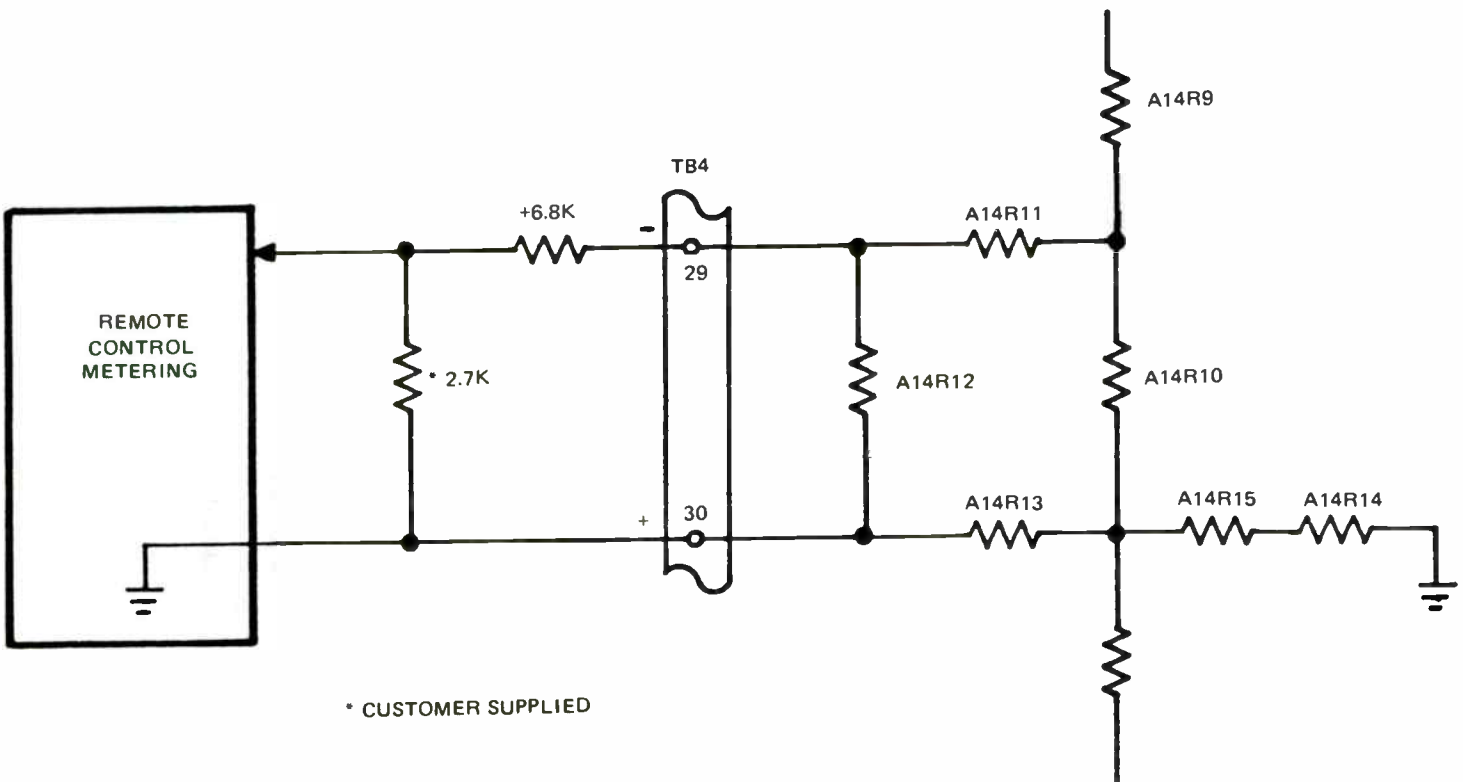
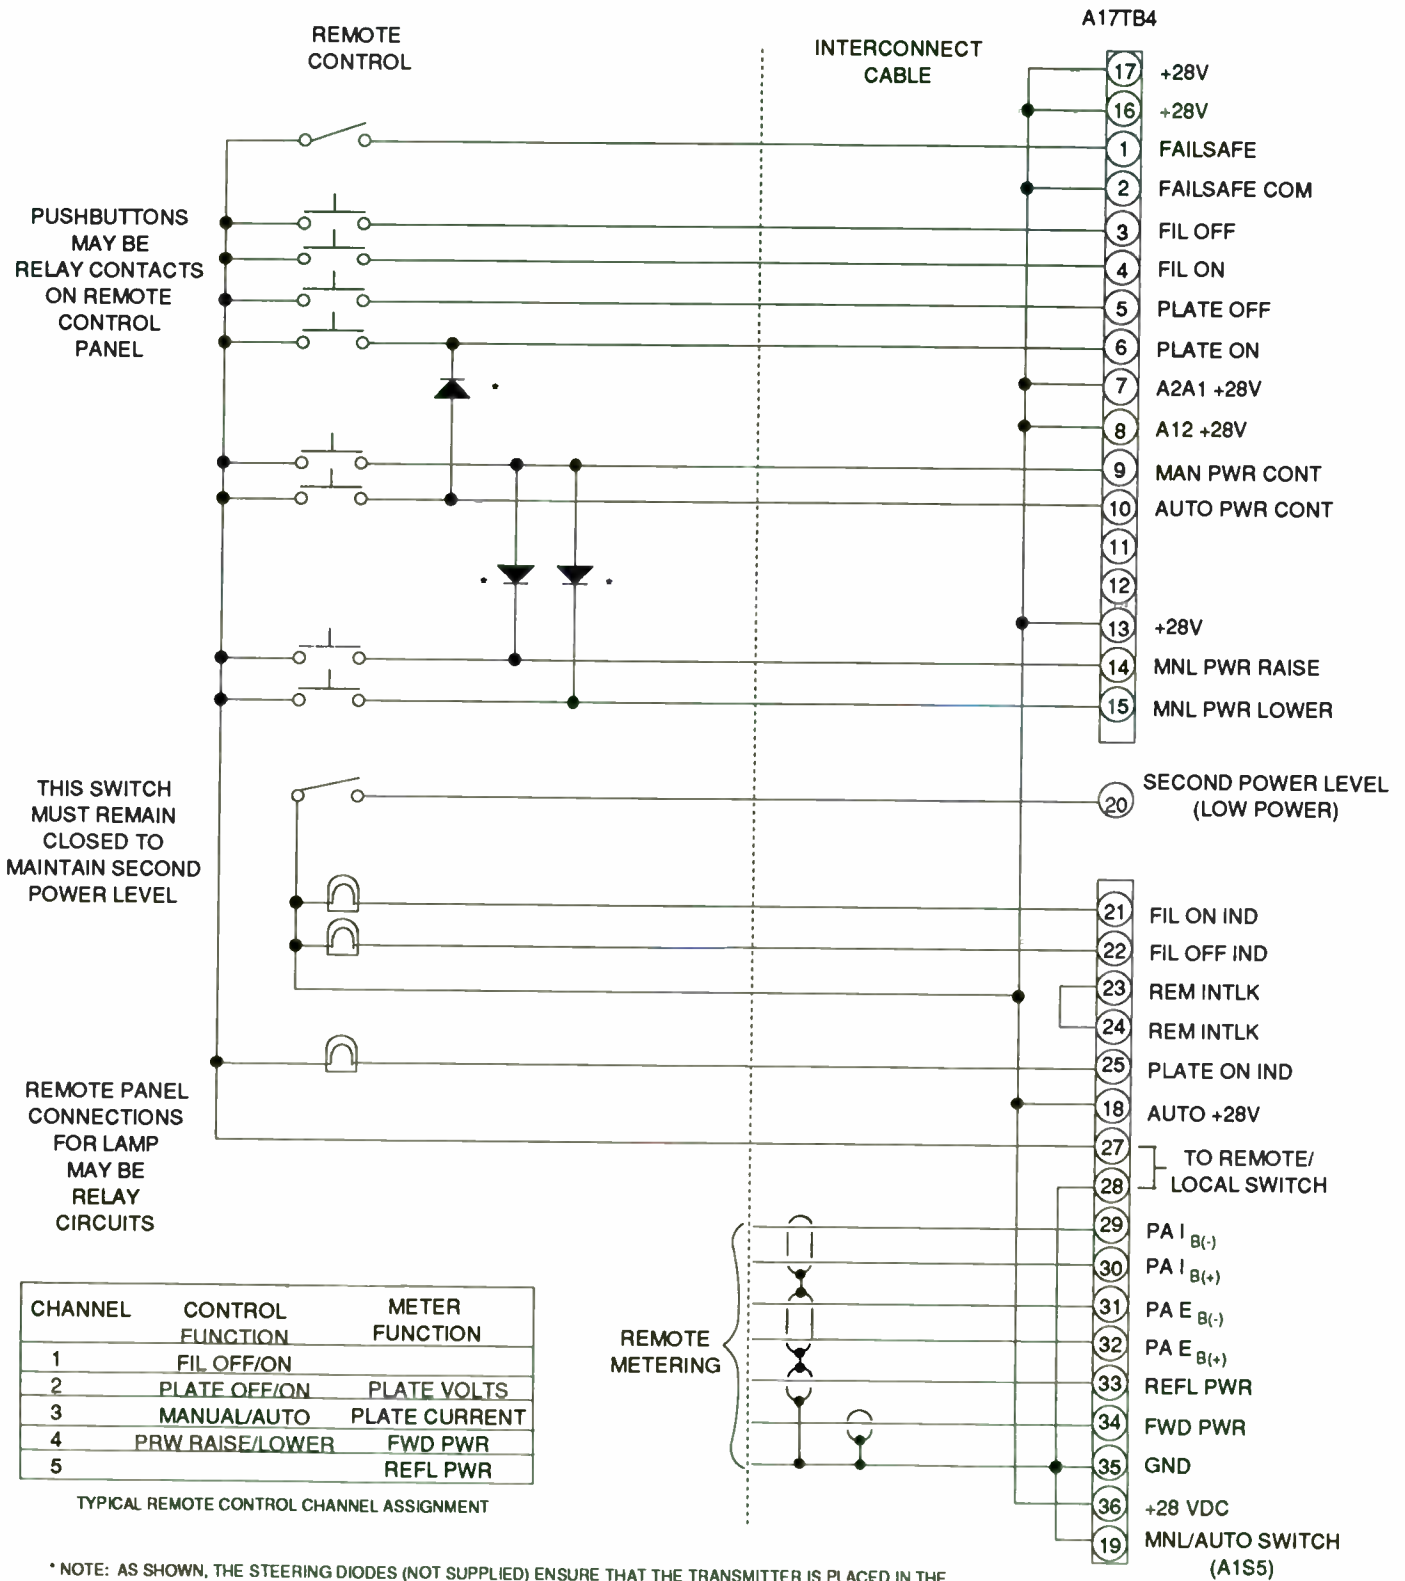

Figure 2-3. Remote Plate Current Sample Circuit
Figure 2-4. Remote Control Connections to Terminal Board A17TB4
7. If remote control is used, run the external wiring from the remote unit into the transmitter and connect it to TB4 as shown on figure 2-3 and on figure 2-4.